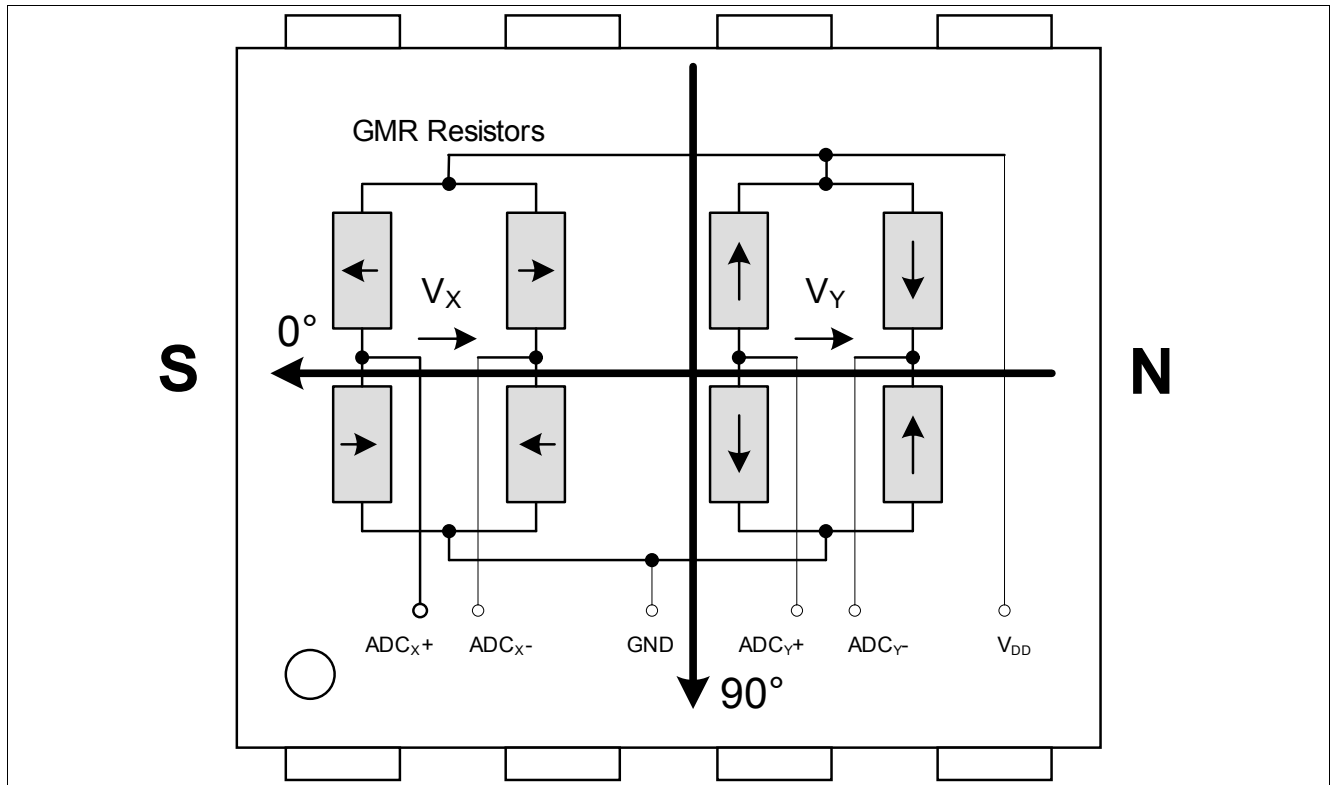

Figure 2-2 Sensitive bridges of the GMR sensor (not to scale)
In **Figure 2-2**, the arrows in the resistors represent the magnetic direction which is fixed in the reference layer. If the external magnetic field is parallel to the direction of the Reference Layer, the resistance is minimal. If they are anti-parallel, resistance is maximal.
**Attention:** Due to the rotational placement inaccuracy of the sensor IC in the package, the sensors 0° position may deviate by up to 3° from the package edge direction indicated in Figure 2-2.